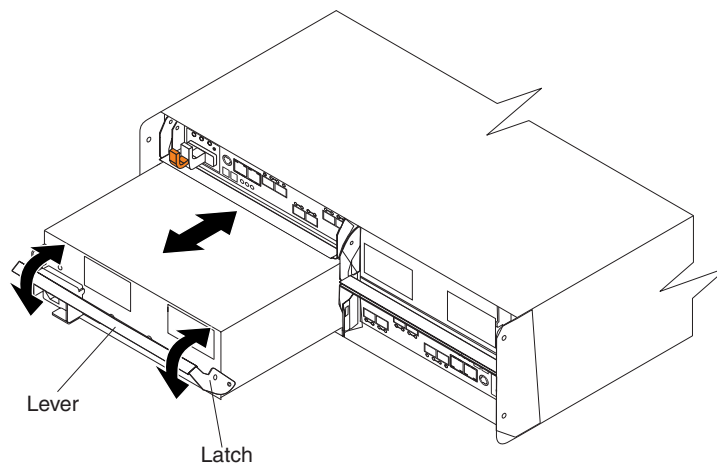

Figure 85. Replacing a power supply and fan unit
Use the following procedure to replace an ac power supply and fan unit. Figure 85 on page 146 illustrates removing and inserting a unit.
11. Slowly pull the lever away from the chassis to remove the power supply and fan unit, as shown in Figure 85 on page 146.